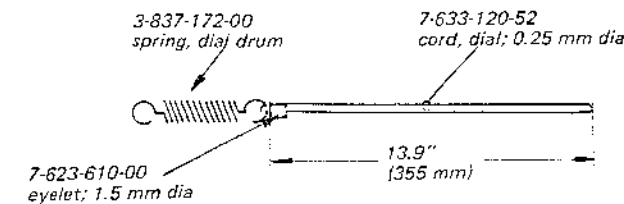

Fig. 2-5
1. Make a dial cord assembly as shown in Fig. 2-5 below.